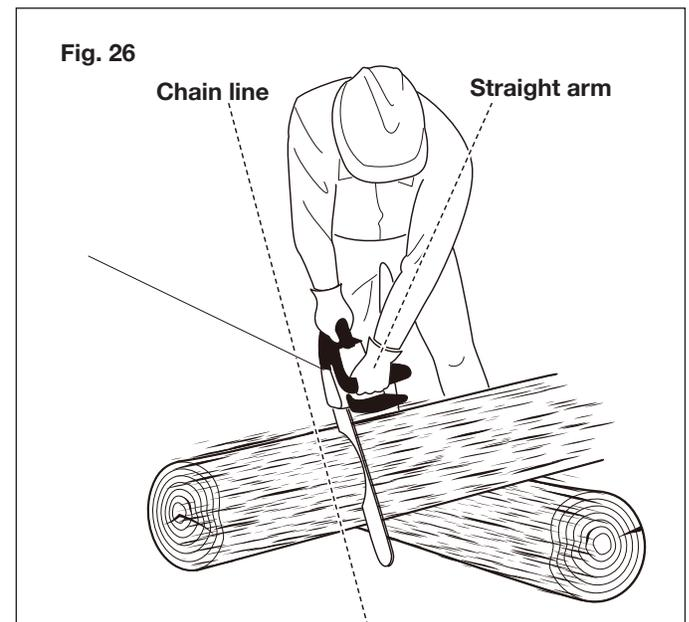

Fig. 26
- Keep your left arm and elbow locked in a "straight arm" position to withstand any kickback force (Fig. 26).